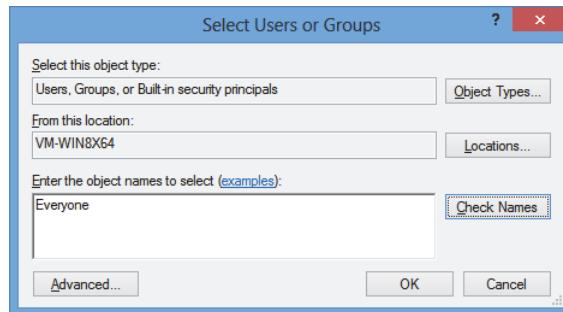

Figure 2-12 The Select Users or Groups dialog box
11. In the **Select Users or Groups** dialog box, in the **Enter the object names to select** box, type **Everyone**, and then click **OK** (see Figure 2-12 on page 39).